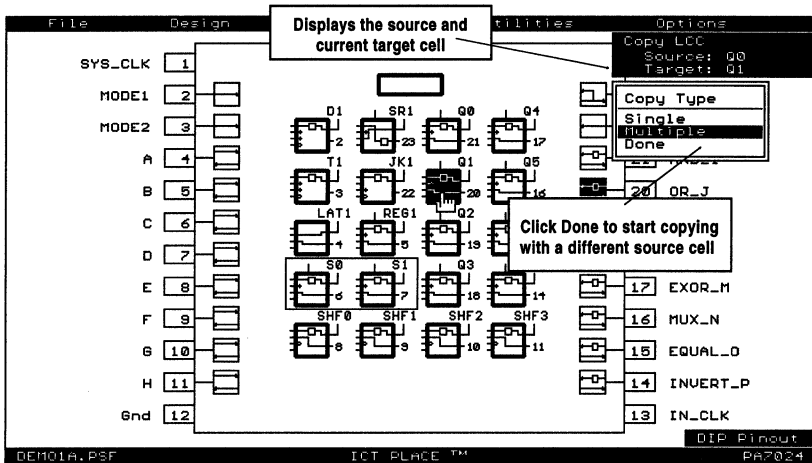

Figure 10-7, Copy Mode
- Copy Copies the selected LCC's, IOC's or INC's configuration into another cell. This will not copy the equations. Select the "Multiple" option in the Copy Type window for doing multiple copying (Figure 10-7), i.e. copying from one cell into many cells. Select "Done" to complete the current "Multiple" copying set and to start another. The only restriction in the "Copy" mode is that the source and target cells must be of the same type, i.e. LCC to LCC, IOC to IOC and INC to INC.